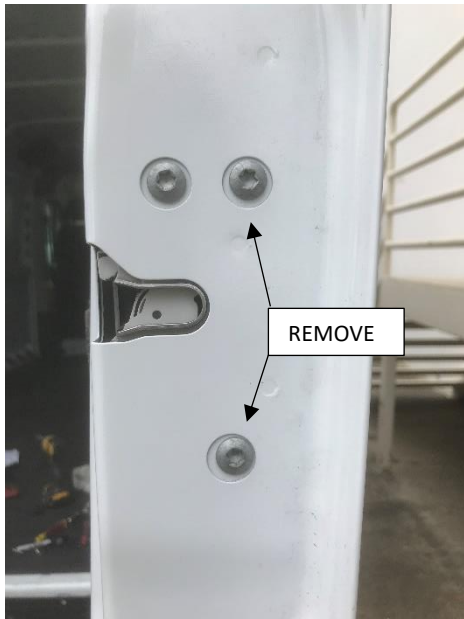

Figure 6: Inner Passenger Door Latch
19. Remove two factory torx screws that hold door latch in place. Set this hardware aside. (Figure 6)